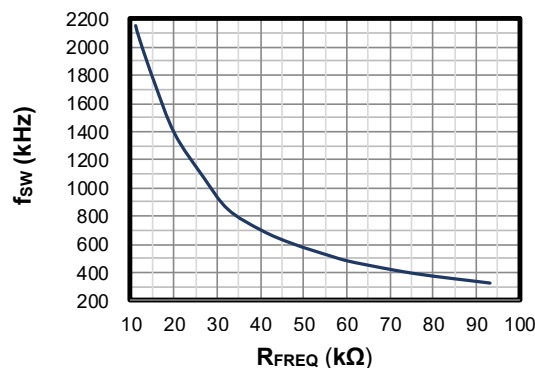

Figure 1: R3 Frequency Resistance
7. The MPQ4315's oscillating (switching) frequency can be configured by an external frequency resistor (R3). R3 can be estimated based on the switching frequency ( $f_{sw}$ ) vs. frequency resistance ( $R_{FREQ}$ ) curve (see Figure 1).